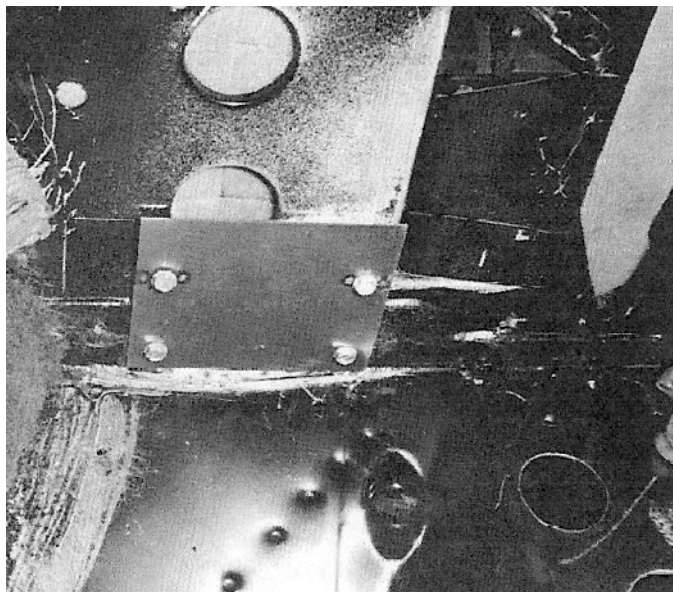
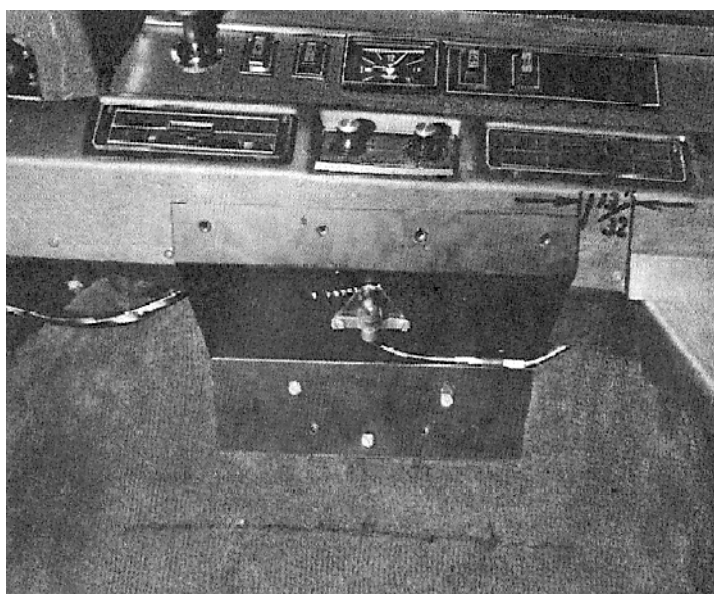

FIG 5
FIG 6
1. Evaporator Hanger Bracket #15-13066A: Place bracket on underside of dash as shown in FIG 5 and attach with (4) #10 x 3/4" sheet metal screws.
2. Cut (2) holes for freon hoses and (1) hole for drain hose through floor mat and re-install.
4. On the underside of the dashboard there are (8) Phillips Head sheet metal screws. Numbering from the left side of dash panel remove screws and washers numbered 2 & 8. Hang evaporator into hanger bracket on under side of dash. Now line up the left and right hand evaporator brackets with the (2) existing holes and re-install, the (2) Phillips screws. (Use washer on left side only.).
7. Evaporator bracket, center #15-13064A: Place bracket as shown in FIG: 6 push up snugly so that evaporator front makes firm contact with the under dash panel and attach with (3) #10 x 1 1/4" sheet metal screws.
8. Heater-Controls: Attach heater control to the lower threaded holes of evaporator bracket using (2) 10-32 x 1/2" machine screws, and (2) #10 Star Lock washer. Attach the air distribution controls to the upper inner threaded holes on evaporator bracket. PALLAS MODEL ONLY: Attach heater control light with (2) # 10 x 3/8" sheet metal screws to evaporator bracket (See FIG: 6_). Now install control panel using (2) #10x32 x 7/8" machine screw. (Use upper mounting holes only).